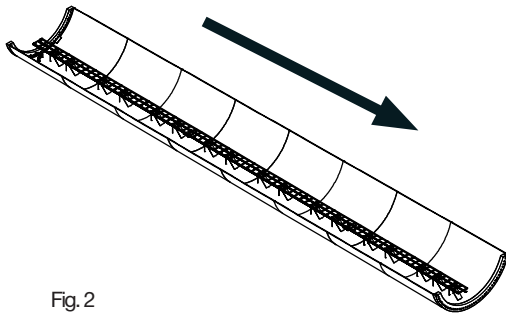

Fig. 2
2. Install the rest of the ladder sections from top to bottom (see Fig. 2).